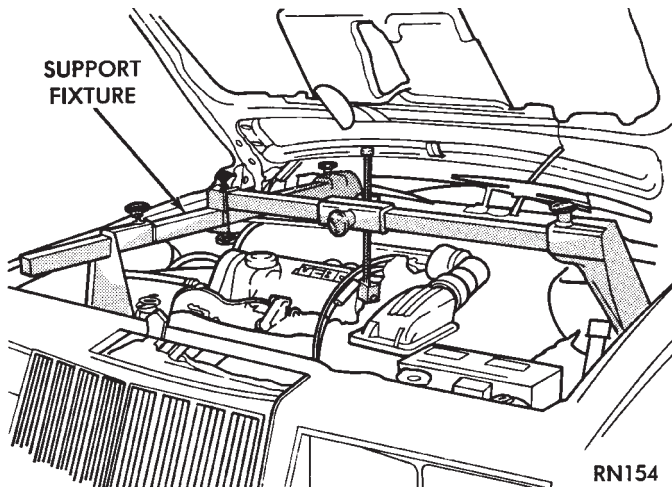

Fig. 1 Engine Support Fixture
- (1) Disconnect or connect **negative** battery cable.
- (2) Install a **lifting eye** on battery ground strap bolt on left side of engine. Then install the engine support fixture as shown in Figure 1.